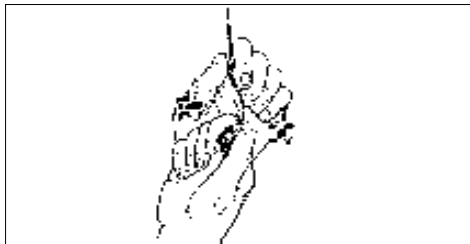

Fig. 2: Aligning the microphone.
5. Hold the cable with one hand and turn the microphone carefully into the desired position as shown in fig. 2.